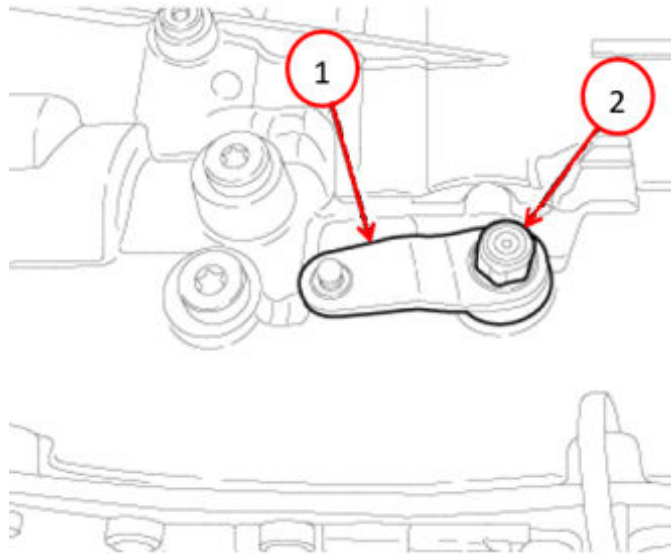

Fig. 49
74. Position the transmission oil pan and gasket Fig. 49.